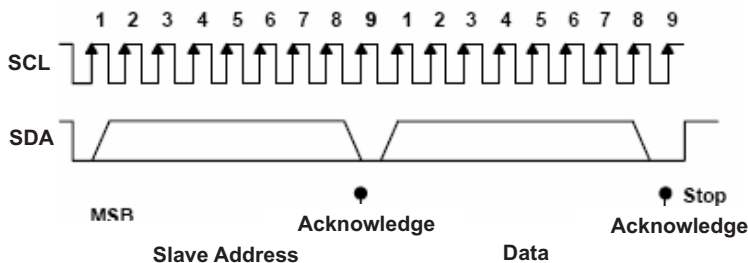

Figure 28. I2C Address and Data Cycles
- The master generates further SCL cycles to either *transmit* data to the slave (R/W bit 0) or *receive* data from the slave (R/W bit 1). In either case, the receiver needs to acknowledge the data sent by the *transmitter*. So an acknowledge signal can either be generated by the master or by the slave, depending on which one is the receiver. The 9-bit valid data sequences consisting of 8-bit data and 1-bit acknowledge can continue as long as necessary (See Figure 28 ).
- To signal the end of the data transfer, the master generates a *stop condition* by pulling the SDA line from low to high while the SCL line is high (see Figure 28). This releases the bus and stops the communication link